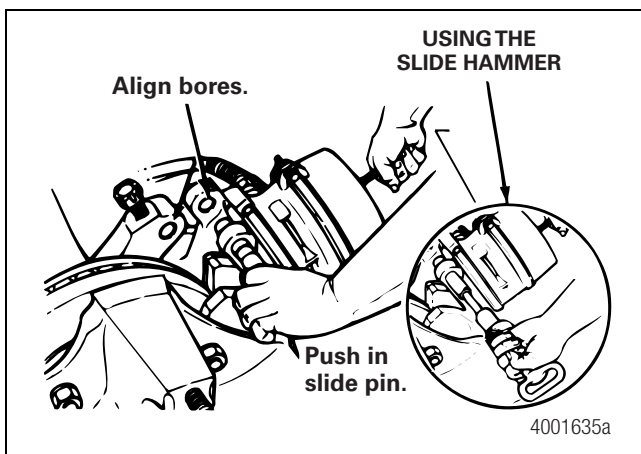

Figure 10.16
5. Raise the caliper and align the caliper bores with the torque plate bores. Figure 10.16. Install the slide pin through the caliper and into the torque plate. Install the pin so that its threaded hole is toward the outboard side.